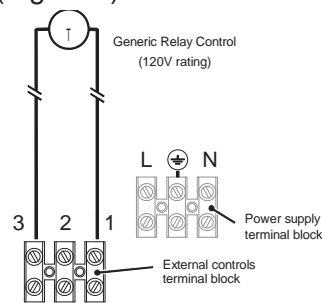

Figure 12.9
- Connect the dry contact switch to terminals 1 and 3 shown in Fig. 12.9.